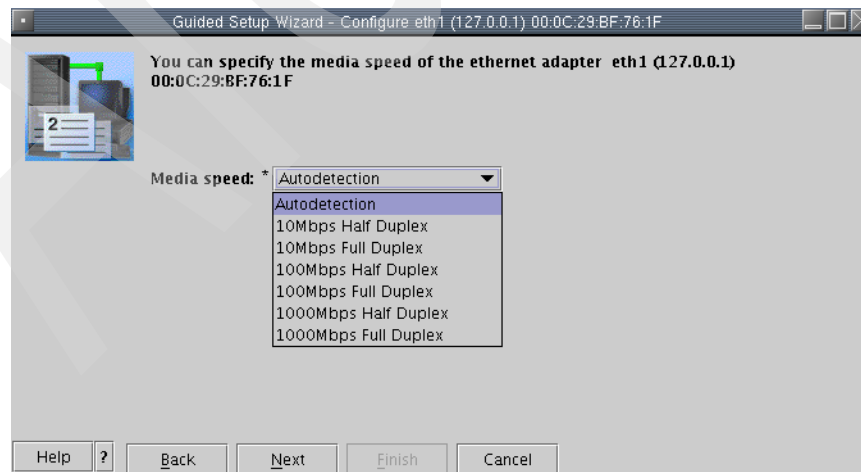

Figure 4-20 Guided Setup - Media speed for eth1
20. The Guided Setup Wizard - Configure eth1 display is then shown (Figure 4-20). As before, we can leave the LAN adapter speed at automatic detection for the initial setup. However, you can set each adapter to your actual network speed if you know this.